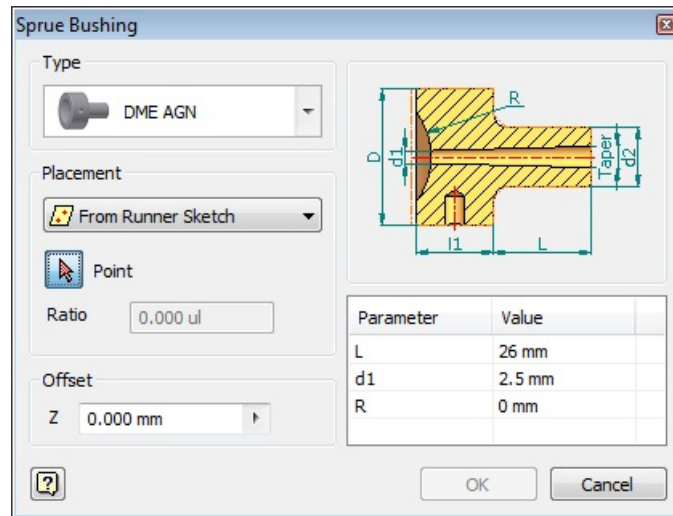

Figure 19-87 The Sprue Bushing dialog box
1. Choose the **Sprue Bushing** tool from the **Mold Assembly** panel in the **Mold Assembly** tab of the **Ribbon**; the **Sprue Bushing** dialog box is displayed, as shown in Figure 19-87.